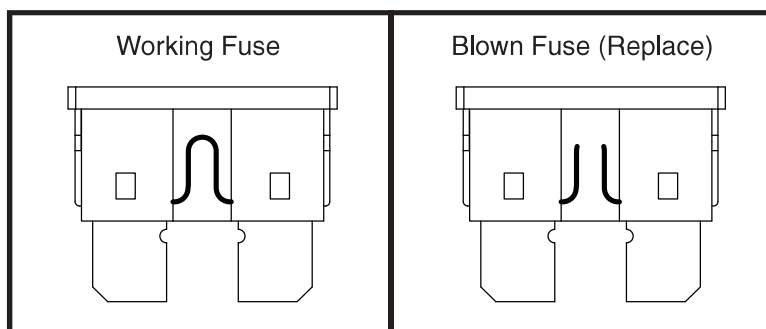

Figure 33. Fuse Replacement
2. Examine the fuse to be sure it is blown. See figure 33.